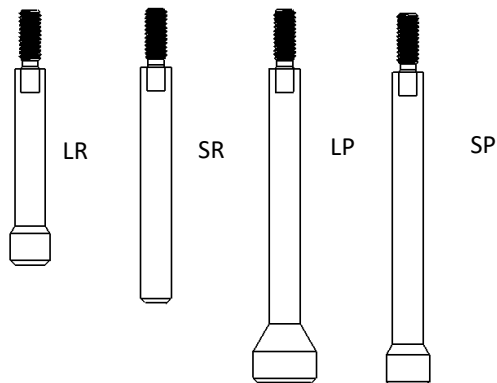

Figure 2: Powder Probe Tips.
2. Choose your **Powder Probe Tip** for your caliber size. First insert the rod assembly into the housing assembly. Thread on the probe onto the **Rod**. Use purple Loctite to ensure it does not get loose (see Figure 2 for the rod sizes for your caliber).